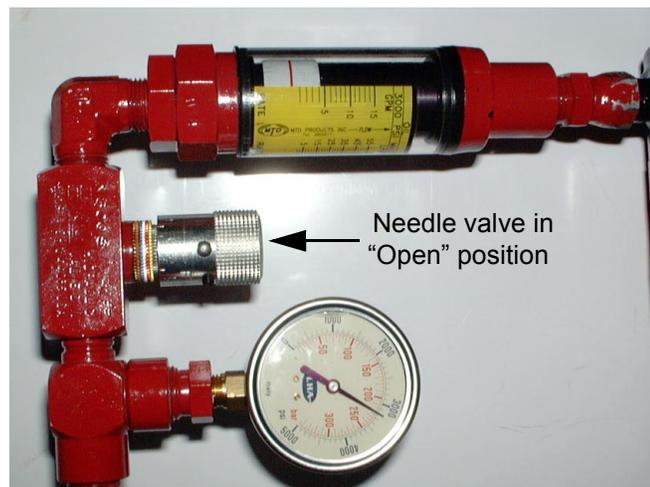

Figure 5
2. Rotate the needle valve counter-clockwise to the completely open position. _____ See Figure 5.